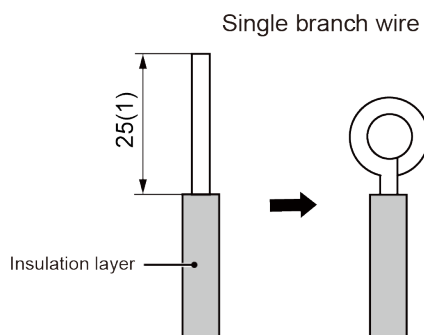

Fig.5.1
- (1) Connect single wire (as shown in Fig.5.1).